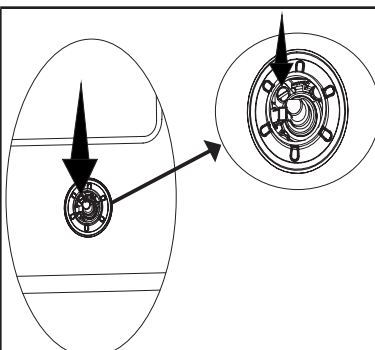

Figure 5
2. Tighten/loosen the gas setting screw shown in figure 5 with the help of a screwdriver of the proper size (see figure 6). This enables the flame in the low position to increase or decrease. Adjust the proper gas setting so that the flame length is at least 4 mm.